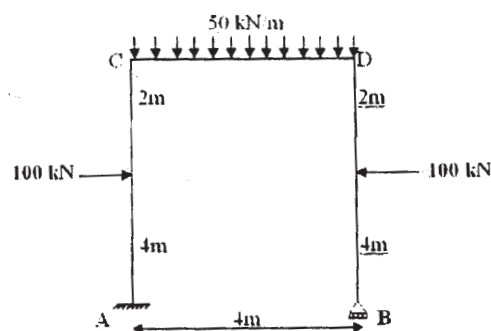

Fig 2
- c) Find the maximum size of fillet weld required to connect the bracket plate to the column as shown in fig.2(c) stress in weld not to exceed 100 N/mm^2 . [9]
Q2) Analyze the frame loaded and supported as shown in **Fig. 2** using **Moment Distribution Method** and hence draw BMD. Assume constant EI for all members. [18]
- b) Derive the equilibrium equations in matrix form for the frame loaded and supported as shown in **Fig. 2** using **stiffness matrix method**. [12]